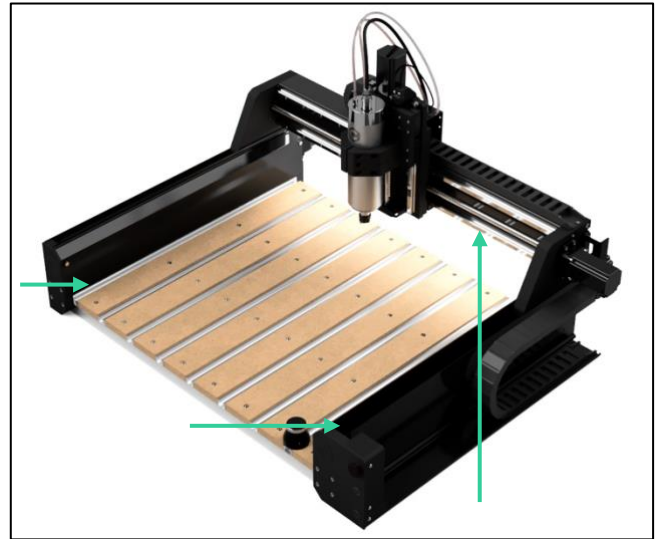

Figure 1
- Lift from the front edge of the X-extrusion and the front end of the two Y-extrusions. See **Fig. 1**.
- a. Lift from the front edge of the X-extrusion and the front end of the two Y-extrusions. See **Fig. 1**.